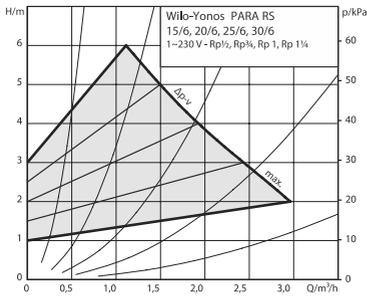

Fig. 7  $\Delta p$ -c, constant differential pressure
**Variable differential pressure ( $\Delta p$ -v):** The knob for the control mode  $\Delta p$ -v is set on the left of the middle position. The differential-pressure setpoint H is increased linearly over the permitted volume flow range between  $\frac{1}{2}H$  and H. The differential pressure generated by the pump is adjusted to the corresponding differential-pressure setpoint. See Fig. 7 above